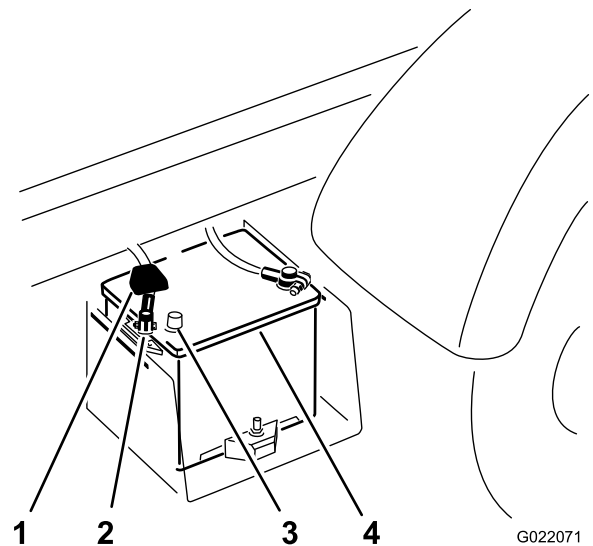

Figure 4
- C. Remove the terminal of the positive battery cable from the battery post (Figure 4).